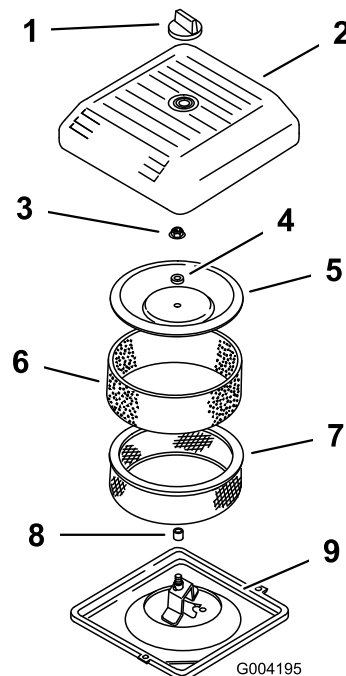

Figure 43
3. Unscrew the knob and remove the air cleaner cover (Figure 43).
4. Carefully slide the foam pre-filter off of the paper element (Figure 43).
5. Unscrew the cover nut and remove the cover, spacer and paper filter (Figure 43).